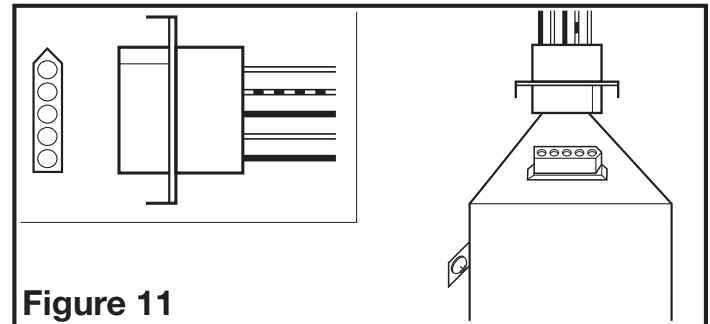

Figure 11
- 3a. **AKLS MODELS:** Plug the fan's quick connect motor cord into the receptacle. This cord will only fit one way into the receptacle (**Figure 11**).